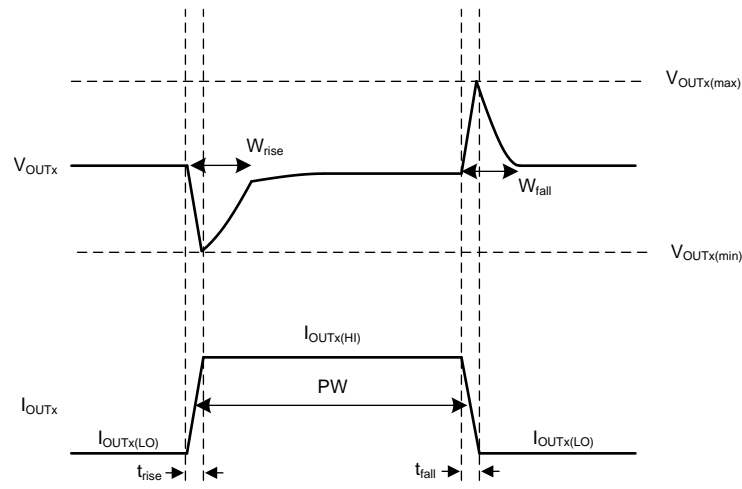

Figure 54. Simplified Load Transient Waveform
The transient response peaks ($V_{OUTx(max)}$ and $V_{OUTx(min)}$) are improved by using more output capacitance; however, doing so slows down the recovery time (W_{rise} and W_{fall}). Figure 54 shows these parameters during a load transient, with a given pulse duration (PW) and current levels ($I_{OUTx(LO)}$ and $I_{OUTx(HI)}$).